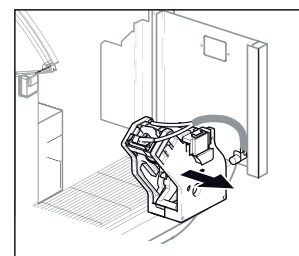

Fig. 1
- 3 Remove the brew group (screen will display "INS. BREW GROUP"). (Fig. 1)
- 6 Remove the brewer group (screen will display "INS. BREW GROUP"). (Fig. 1)